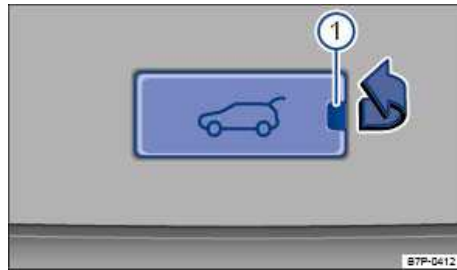

Fig. 331 Inside the luggage compartment: Remove the cover plate in the rear hatch.
- Remove the rectangular cover in the inside trim of the rear hatch by inserting a small screwdriver in the opening ⇒ fig. 331 \(1\).